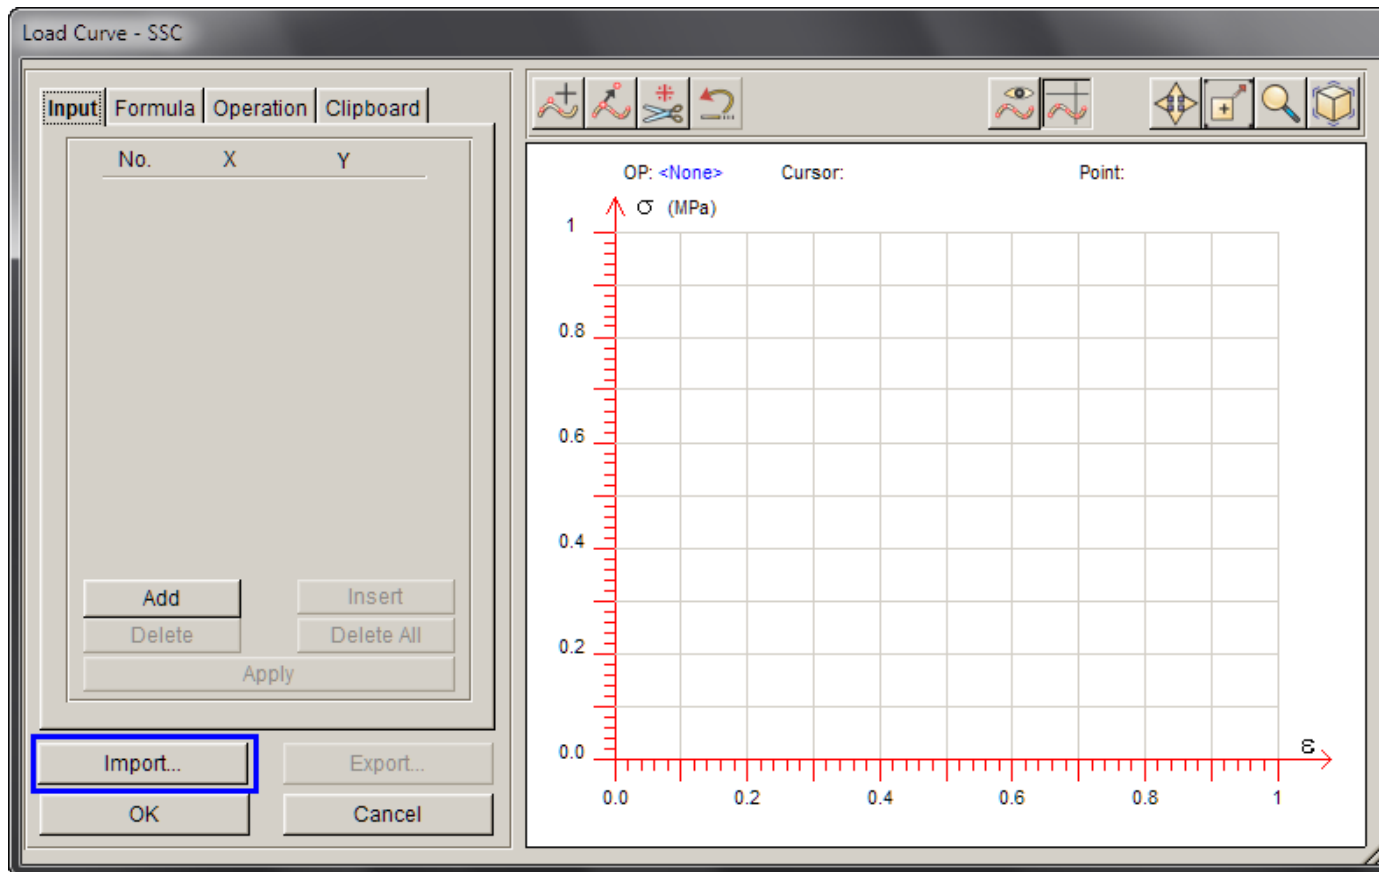

Figure 22
4. Click **Import...** to select the stress/strain curve at 0 degree. (Figure 22).